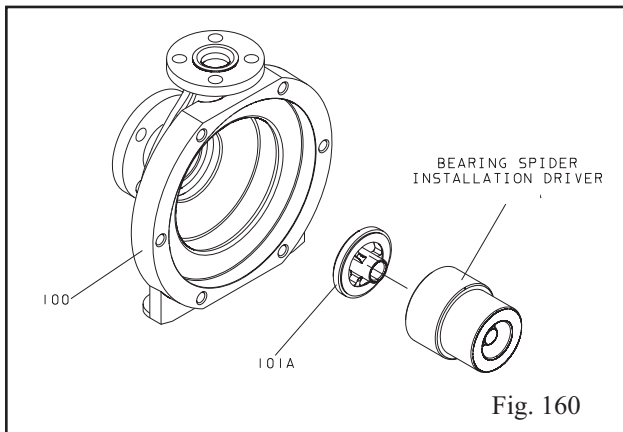

Fig. 160
11. Press spider (101A) into casing (100) with spider tool (Fig. 160).